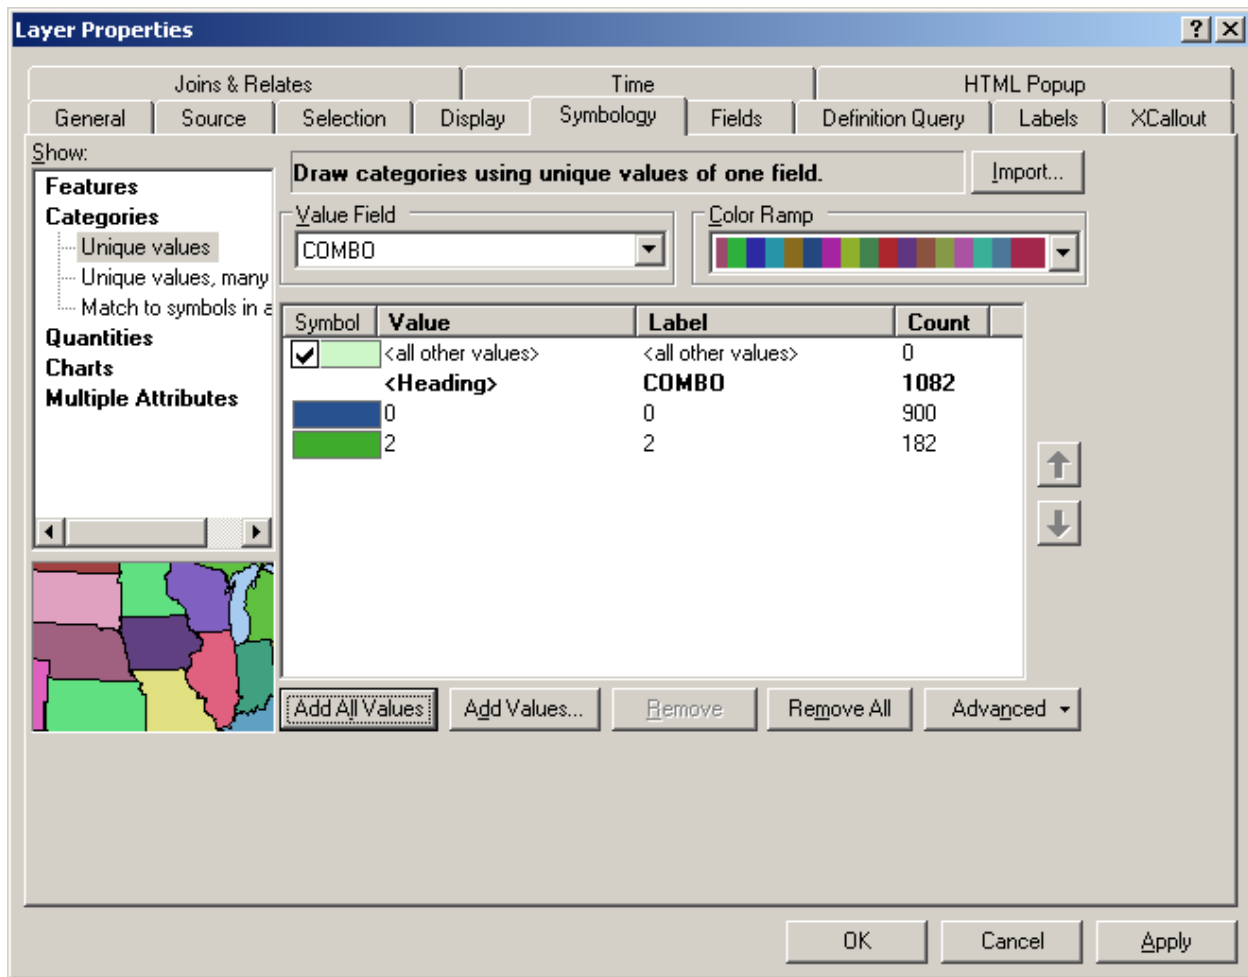

Figure 5-16—Changing the symbology to show the values for the COMBO attribute.
- 7) Change the Symbology to show the COMBO field (**right-click on the layer → Properties**, fig. 5-16). COMBO is the sum of InPatch and DoTreat: when it's 0 it is neither in the patch or needing treatment, when it's 1 it is in the patch but does not need treatment, when it's 2 it is both in the patch and requires treatment.